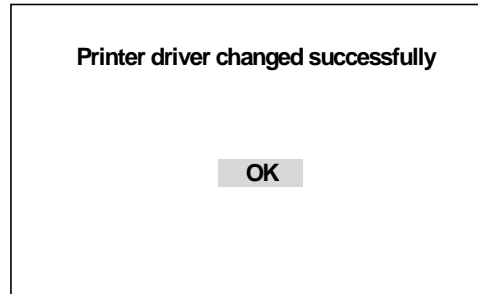

Figure 36. Printer Driver Changed Screen
C. Upgrade is complete when the **Printer Driver Changed Successfully Screen** (Figure 36) appears (in about one minute). Remove the printer driver disk and press **OK**.